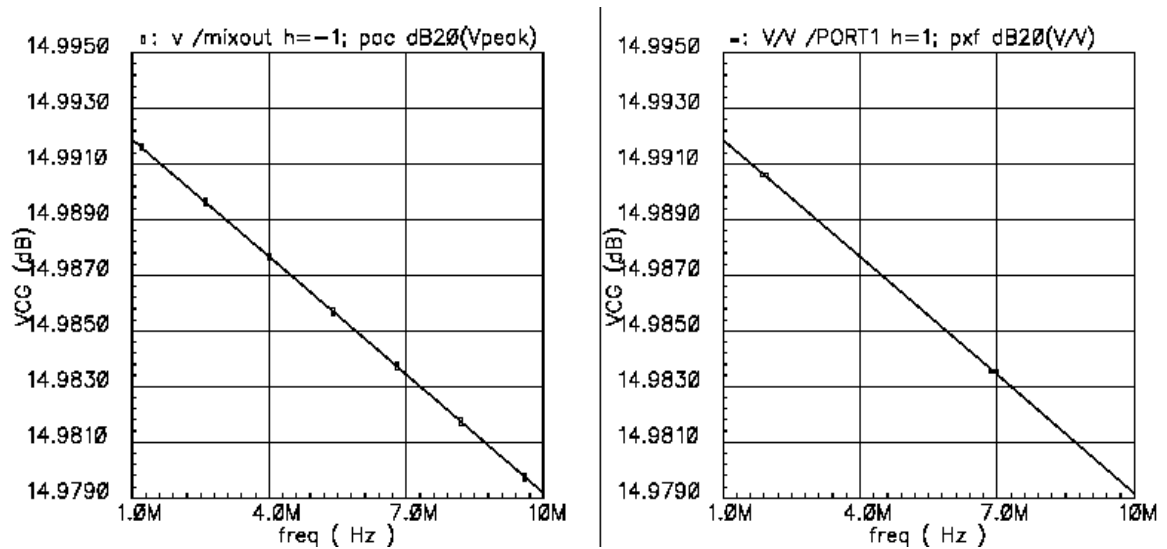

Fig 5: Voltage Conversion Gain versus RF frequency using PAC and PXF (PXF simulation right removed from in this lab.)
- *You will see the plot as shown in Fig 5.*